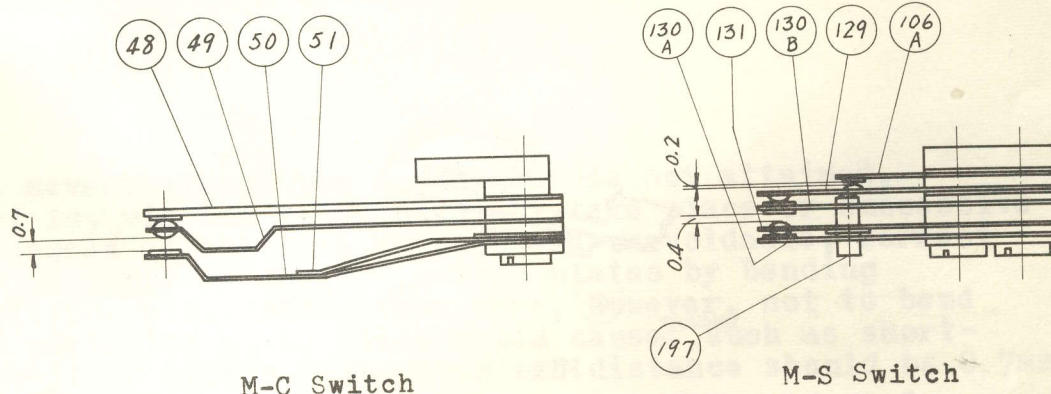

Fig. 4 - 1
- (1) If the tension of plate spring #50 among three ones in the M-C switch is found too weak, bend it inward using pliers. For, if it were too weak to touch plate #49 with sufficient pressure at the moment of completion of winding, it would subject to vibration, causing deficient contact and imperfect stop of motor running, thus successive exposures may be unavoidable.
- (2) Bend auxiliary plate #51 found inside of plate #50, so that the distance between the M-C switch and the contact points is about 0.7mm. See Fig. 4 - 1.
- (3) Check if, when the button in the N-S switch is depressed, #131 and #129 come in contact with #130B and #106A respectively, and when the finger is lifted up from the button, #131 in contact with #130 and then #129 with #130, or not. If the contacts do not occur in these orders, correct by bending #130B to get the clearance 0.4mm against #131 and then by bending #106A to get 0.2mm against #129. See Fig. 4 - 1.